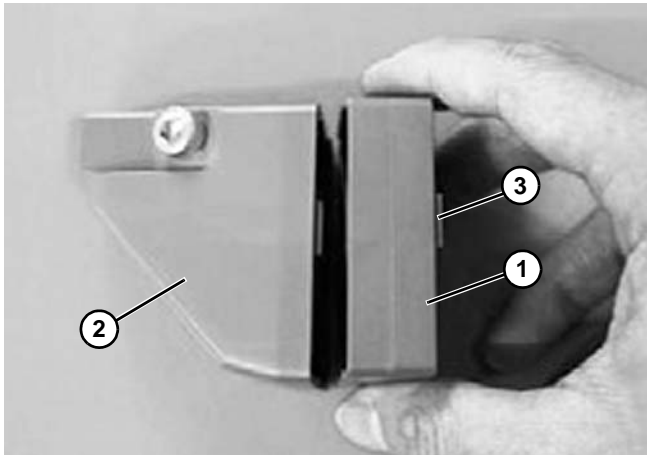

Figure 89
1. Attach the spacer (Figure 89, item 1) onto FGRF- 42x18V (Figure 89, item 2) and install correct length T-bolt (Figure 89, item 3).